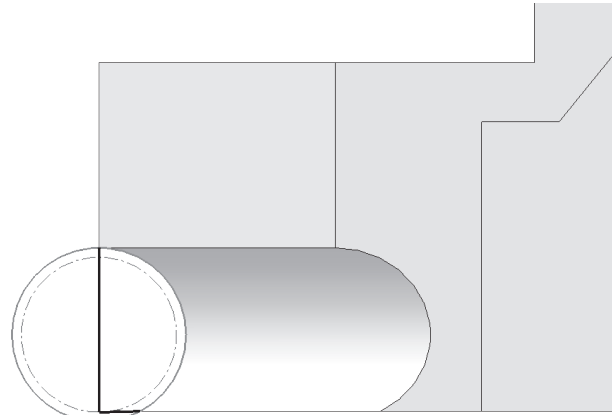

**Fig. 13**
Step 2. Click **Right Plane**  in the Feature Manager and click **Sketch**  on the context toolbar, **Fig. 13**.